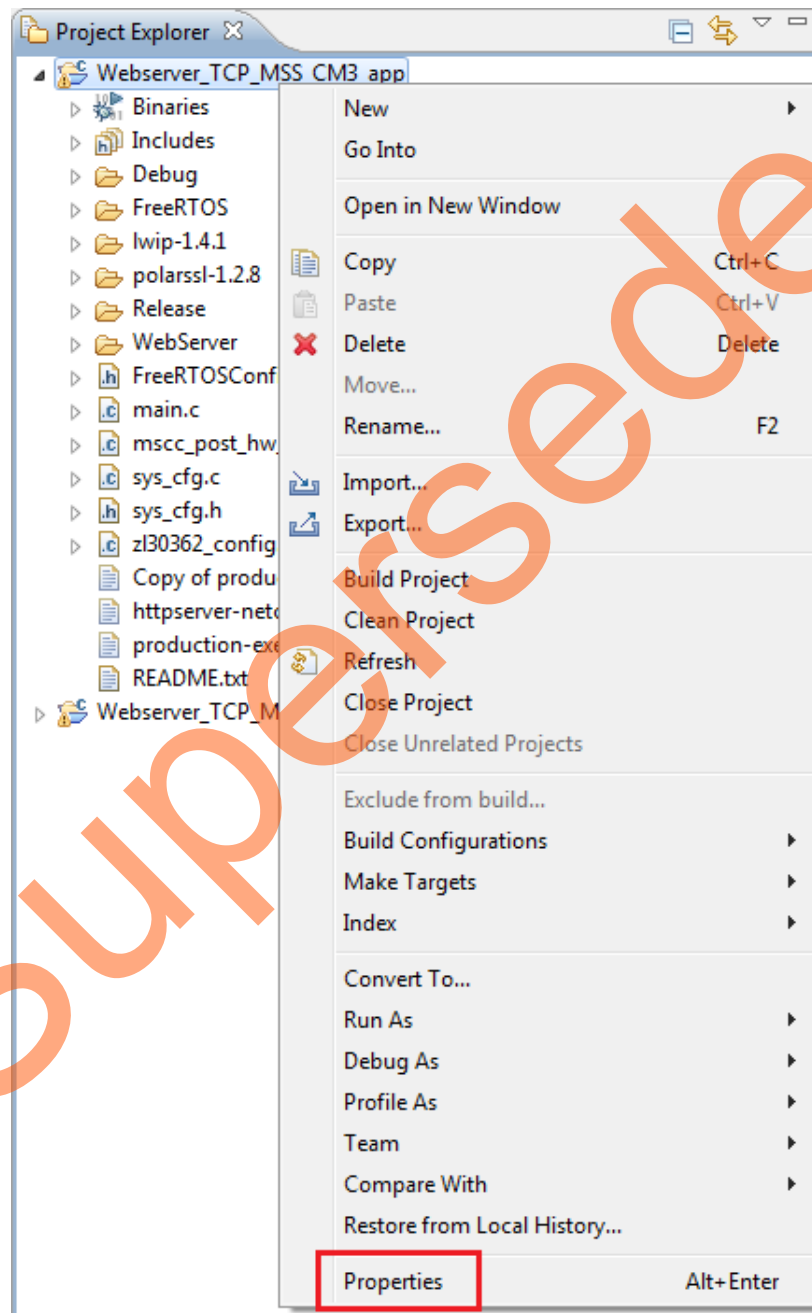

Figure 1 • Project Explorer Window of SoftConsole Project
1. Right-click the **Webserver_TCP_MSS_CM3_app** in the **Project Explorer** window of SoftConsole project and select **Properties** as shown in Figure 1.